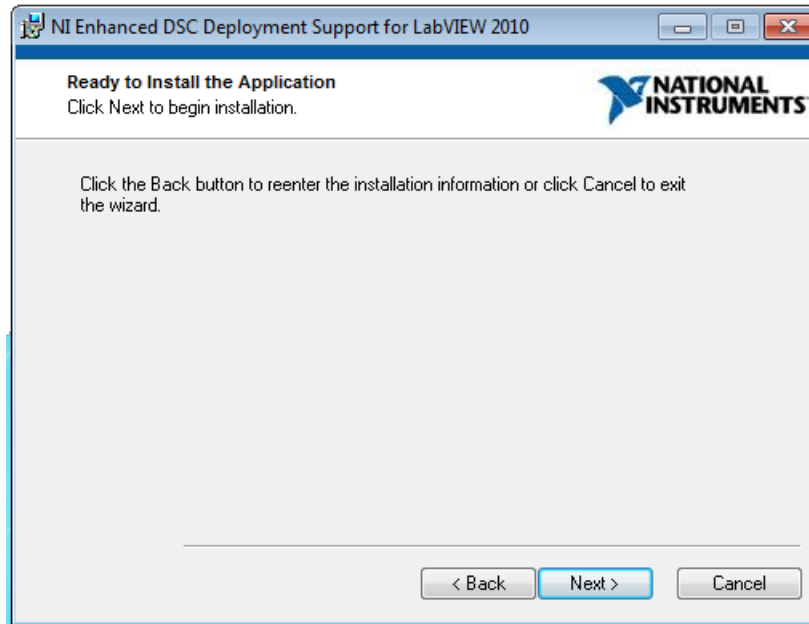

Figure 27. LabVIEW RTE Start Installation
5. The *LabVIEW RTE Start Installation* window (Figure 27) appears, click the *Next >* button to begin installation.